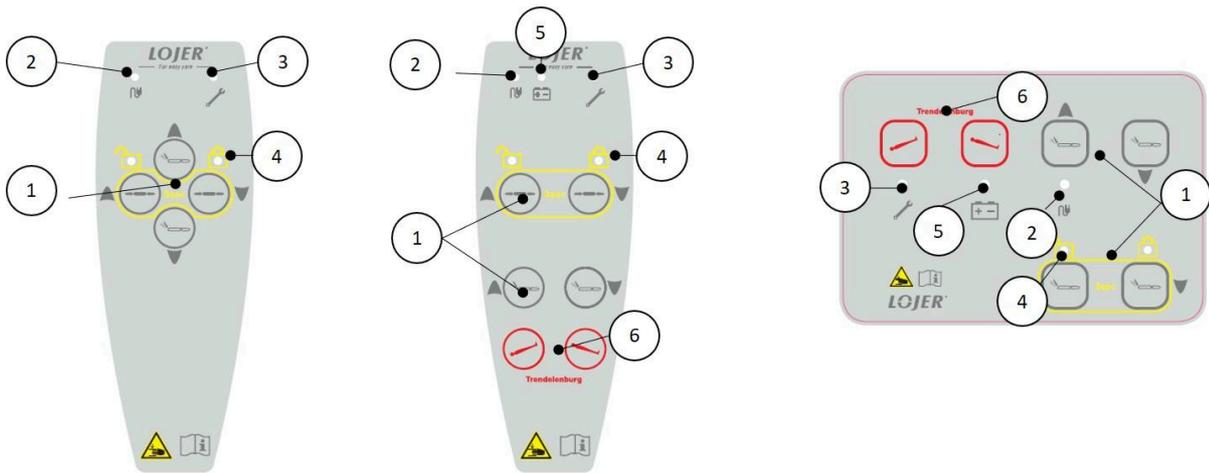

Figure 2.1: Hand controls and ICP control for 4020XB. (ICP control only with antimicrobial model)
Table can be equipped with battery (battery is always included with Trendelenburg option). Battery is only to be used temporarily e.g. during power loss. Battery indicator led (Figure 2.1 (5)) is on when the device is on battery use. When charging, indicator leds flash slow (Figure 2.1 (2&5)). The device should be connected to mains, when the battery indicator led flashes and sound signal is heard during adjustments.